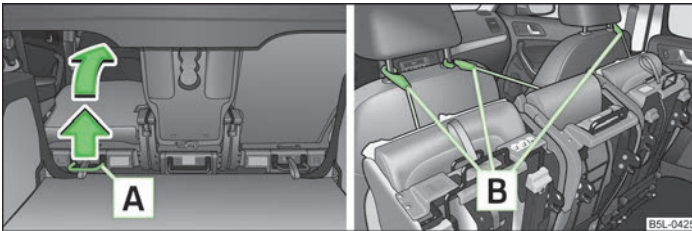

Fig. 51 Fold seat fully forwards/lock folded forward seats
- > Pull the lever **A** » Fig. 51 up and fold the seat forwards fully.
- > Secure the folded forward seat with the aid of the fixing belt **B** to a guide rod of the head restraint for the front seat » Fig. 51.